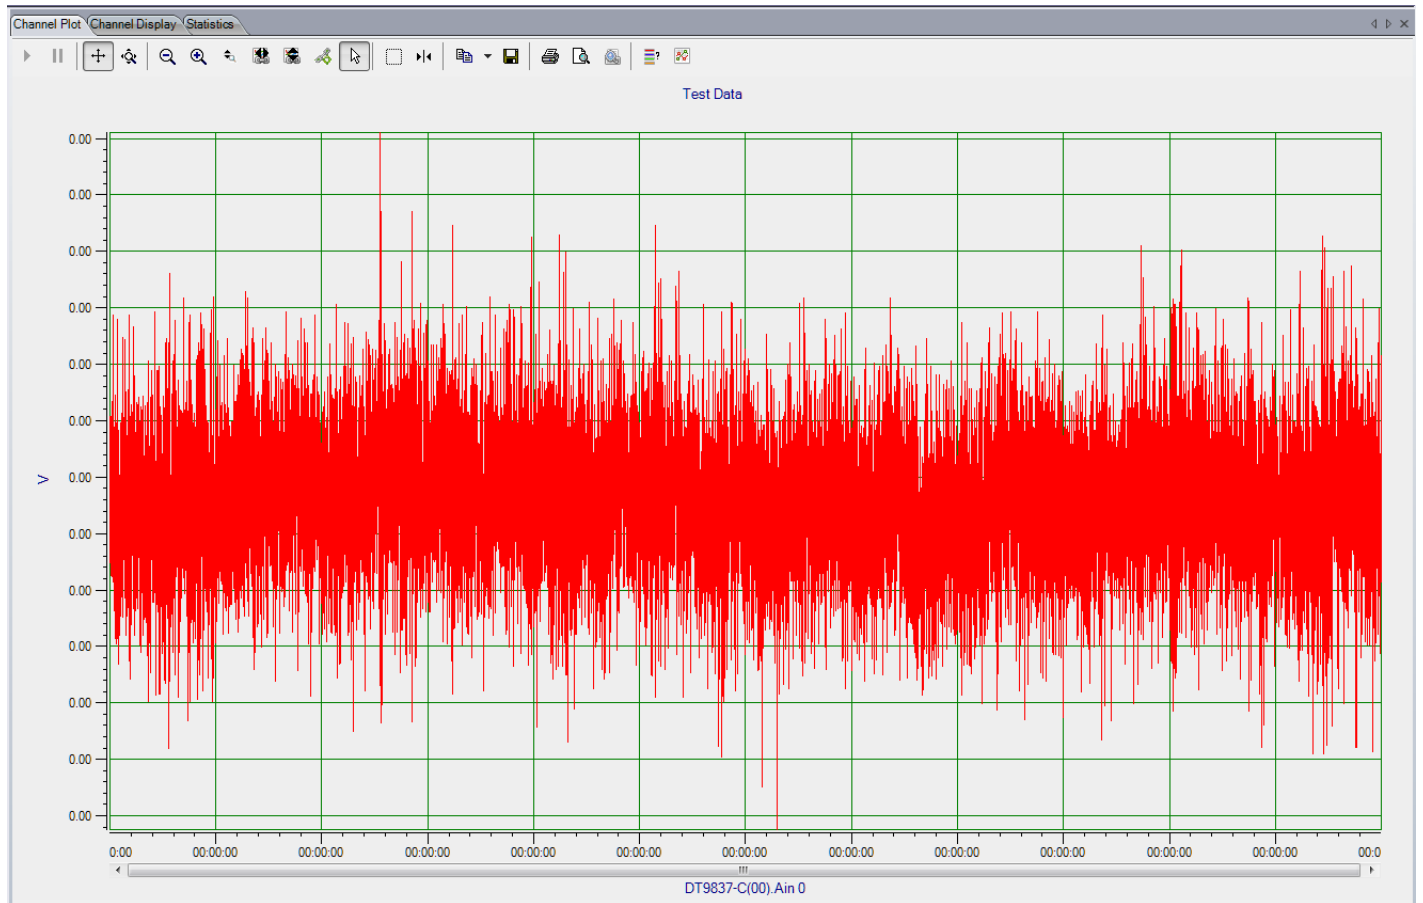

Figure 28: Pink Noise Signal
- **Pink (1/f Noise)** – A noise signal with a power spectral density that is inversely proportional to the frequency. Each octave contains an equal amount of noise power. Figure 28 shows a pink noise signal (from 0 Hz to 10 kHz) in the time domain.